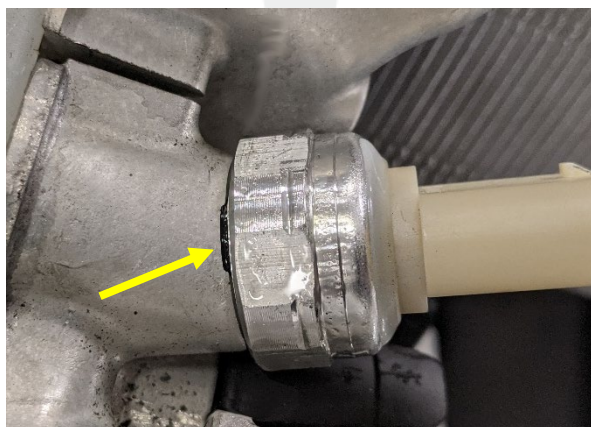

Figure 12 – O-ring pinched
- If the low pressure P/T sensor O-ring appears to pinch (Figure 12), or no longer slides into the chamfer, stop and back off the P/T sensor until the O-ring no longer appears to be pinched.